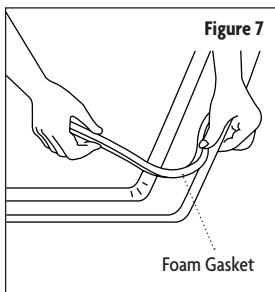

Figure 7
4. Turn the cooktop upside down and place the special foam gasket around the bottom edge of the cooktop. It is important that the gasket is fixed evenly without any gaps or overlapping, this is to prevent liquid seeping underneath the cooktop. (Refer to Figure 7.)